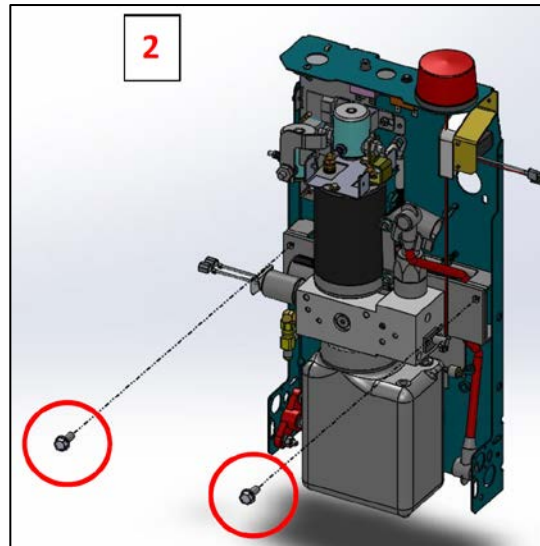

Figure 2: Remove Two Pump Mount Screws
4. While holding the pump from underneath, remove the two screws with a 1/2 inch drill bit or with a 1/2 inch socket, retain the screws. See **Figure 2**.